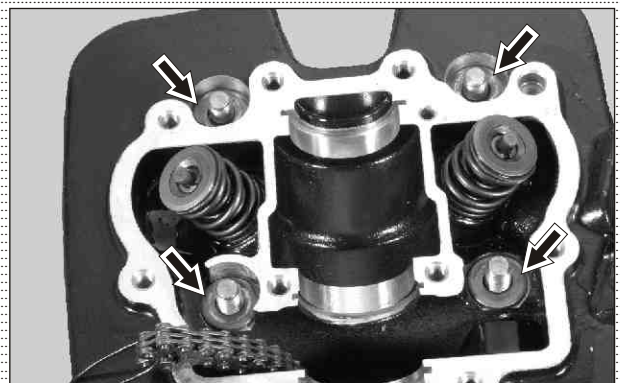

Fig. 3.81
- Remove punched washers (4 nos) from the head complete cylinder. (Fig. 3.81)